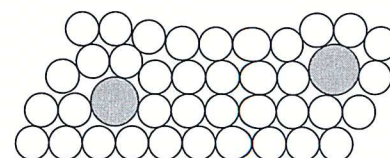

Figure 15
3. **Figure 15** shows the structure of an alloy.